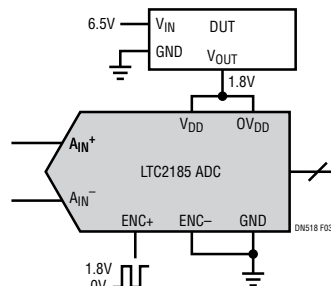

Figure 3. Noise Test Schematic Using Different Supplies to Power 16-Bit LTC2185 ADC
In the general ANR procedure, the eNB instructs the LTE terminal to take quality measurements of neighboring cells on a periodic basis—on the same frequency, for instance (Fig. 3). While doing so, the device may detect a PCI that is not listed in the neighbor list. When sending the measurement report to the network, the device uses the cell identity to indicate the cell it is reporting, including the newly detected cell with a PCI of 27.
When powering high speed analog-to-digital converters (ADCs), it is important to use a power supply that is as clean as possible. Any switching spurs that are present on the power supply rail will translate into AM modulation in the ADC output spectrum. The noise performance of the **LTC[®]2185**, a 16-bit ADC, was evaluated to see the difference between using (1) a typical LDO, (2) a typical switching regulator, and (3) the **LTM8028** low noise μ Module regulator. A simplified schematic of the test is shown in Figure 3, where the DUT is represented by either of the configurations.